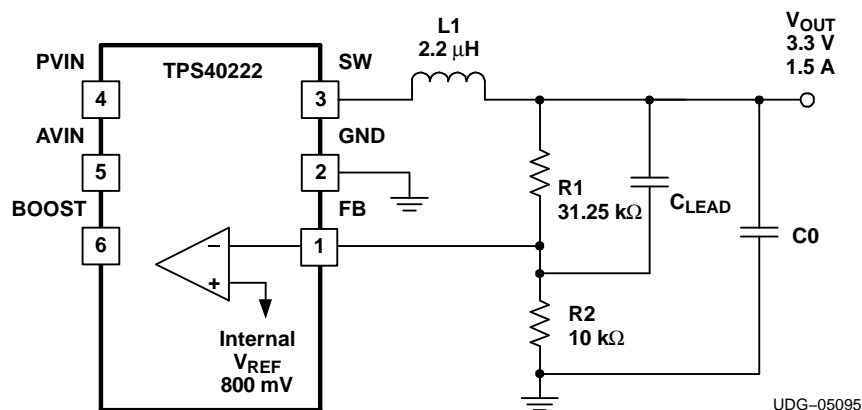

Figure 10. Output Stage
Since the loop compensation is internally fixed and cannot be changed, loop stability can only be controlled by the proper choice of output inductance and capacitance. Table 2 provides a shortcut guide to this selection and recommended capacitance to maintain a safe 50 degrees of phase margin for various inductors and output voltages. The table also shows the minimum capacitance for 50 degrees of phase margin at three temperatures, with the worst case for stability at -40°C. The granularity of the table is sufficient so the user can interpolate between values to find a specific operating condition. The table values assume a full load, which is also the worst case for phase compensation. As an example of using the table, consider a 2.5-V output converter with a 2.2-μH inductor. The table shows that a minimum of 15-μF of output capacitance is required to guarantee greater than 50 degrees of phase margin at the worst case temperature of -40°C. With a lead capacitor (C_{LEAD}) added to the feedback as shown in Figure 10, this minimum capacitance increases to 26-μF and the closed-loop frequency increases by about 20%.
(1) See Figure 10.
(2) For V_{OUT} > 3.3 V use an inductor with a value greater than or equal to 2.2 μH.
In most applications, the user starts with a known output voltage and current load requirement as shown in Figure 10.
As shown in Figure 10, the trimmed reference voltage is internally connected to the error amplifier. Since the input bias current to this error amplifier is negligible. The feedback resistors R1 and R2 can be selected over a broad range limited by the low bias current into the error amplifier. With this restriction in mind, R2 was selected at 10 kΩ, so its current is 80 μA and large relative to the bias current of the error amplifier. The output voltage is then given by Equation 4.